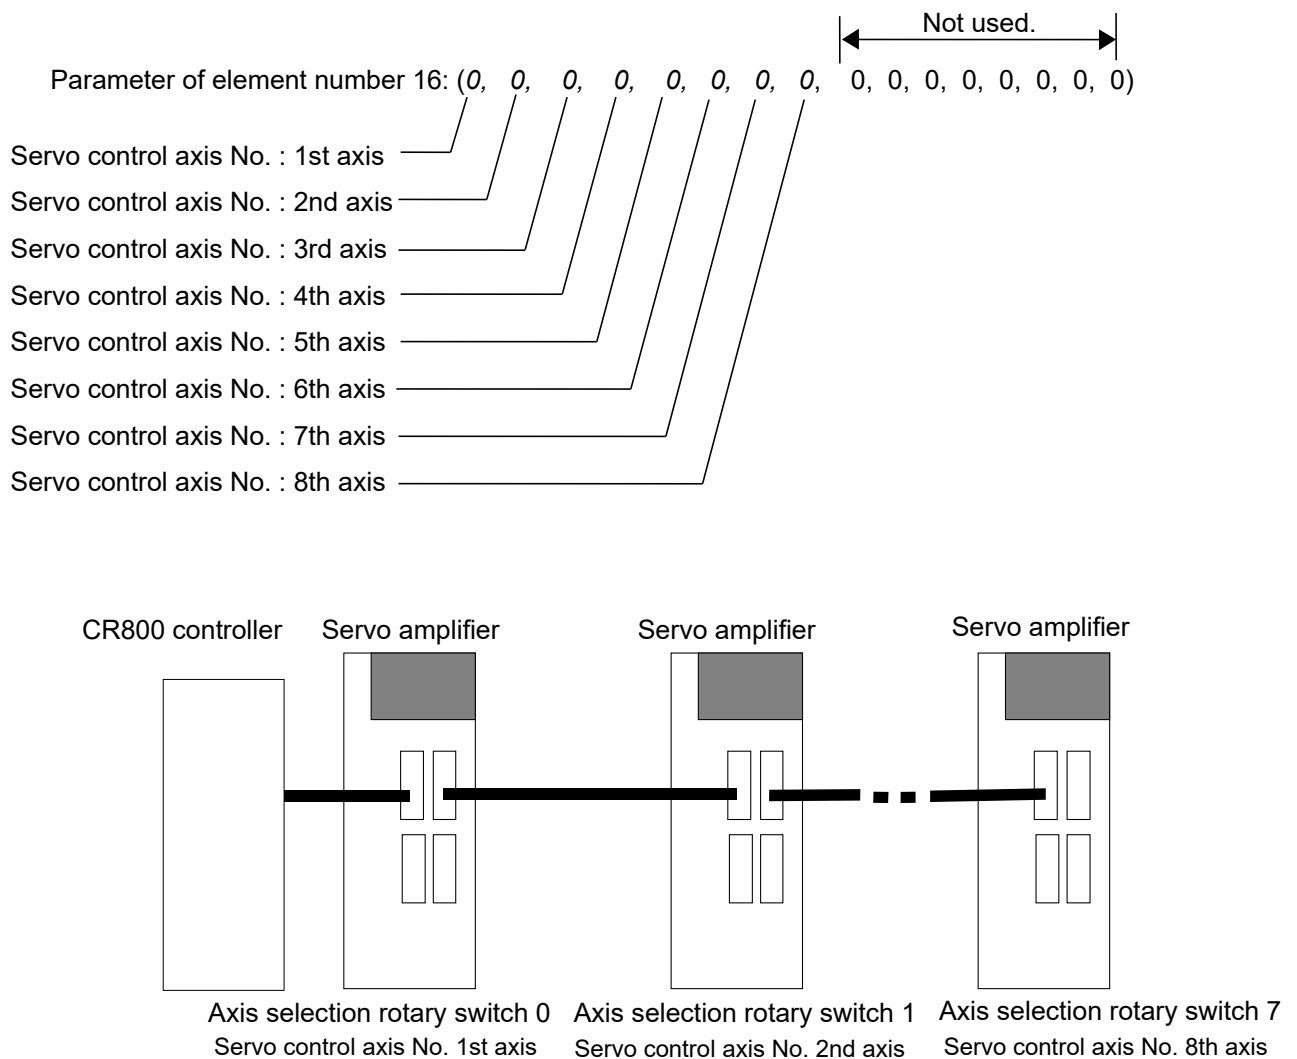

Fig. 7.1.1 Control No. and parameter element of servo
- (2) AXMENO (mechanism No. designation)
- (3) AXJNO (Setting axis No.)
- (4) AXUNT (unit system)
- (5) AXSPOL (motor rotation direction)
- (6) AXACC (acceleration time) · AXDEC (deceleration time)
- (7) AXGRTN (total speed ratio numerator) · AXGRTD (total speed ratio denominator)
- (8) AXMREV (rated rotation speed) · AXJMX (maximum rotation speed) · AXENCR (encoder resolution)
- (9) AXJOGTS (JOG smoothing time constant)
- (10) MEJAR (joint operating range)
- (11) USERORG (user designated origin)
Moreover, the parameter elements of (2) to (9) correspond to the control axis Nos. of the servo as shown in "Fig. 7.1.1 Control No. and parameter element of servo". If any personal computer support software (which enables the program editing, parameter setting, various monitors, etc., of the robot) is used, (10) and (11) are the mechanical parameters and the others are arranged in the common parameters.